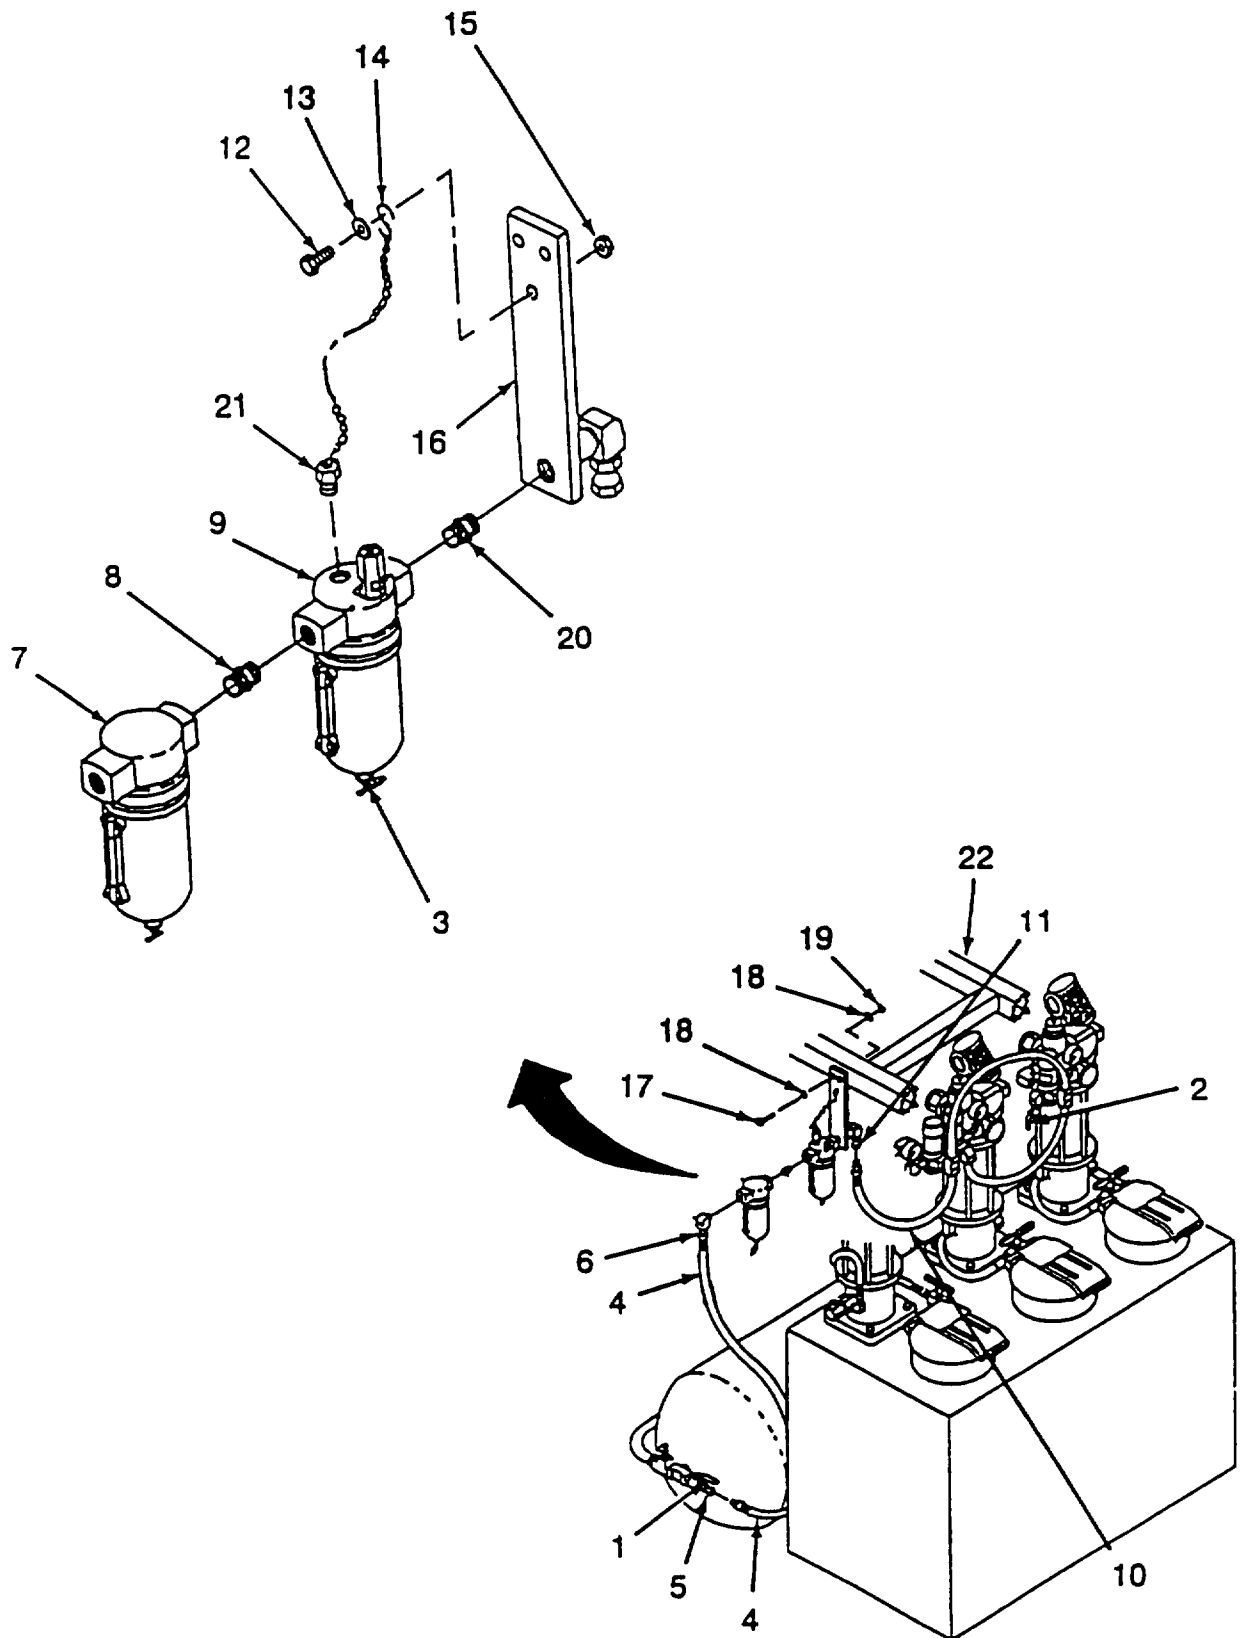

Figure 4-5. Alcohol Injector
a. Removal. (Refer to Figure 4-5.)
- (1) Shut off air flow by turning ball valve handle (1) to "off" position.
- (2) Vent air pressure completely by turning lever (2) to "open" position.
- (3) Open petcock drain (3) and drain methyl alcohol into suitable container.
- (4) Disconnect hose (10) from swivel adapter (11).
- (5) Remove cap screw (12), washer (13), chain assy hook (14), and self-locking nut (15) from bracket (16). Discard self-locking nut (15).
- (6) Remove two bolts (17), two washers (18), and two self-locking nuts (19) from bracket (16), and remove bracket (16) and alcohol injector (9) from A-frame (22) Discard two self-locking nuts (19).
- (7) Remove alcohol injector (9) from nipple (20).